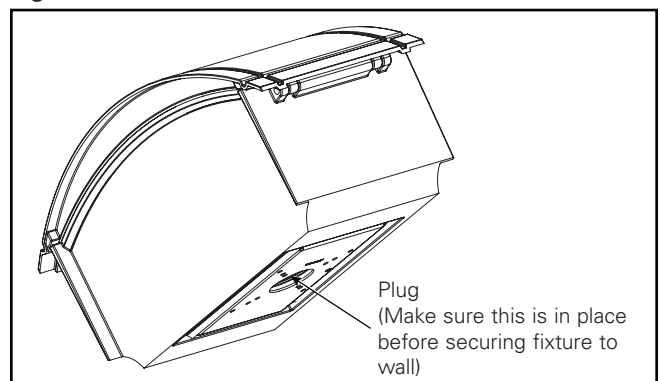

Figure 1a.
5. Make sure plug at bottom of housing is in place properly as shown in Figure 1a.